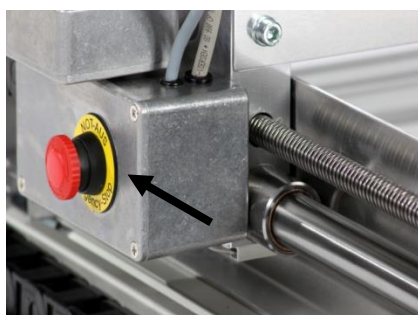

Figure 2: Emergency-stop-button on Y- bridge
- Only unlock the emergency-stop-button (*Fig.. 2 u. 3*) when there is no risk.